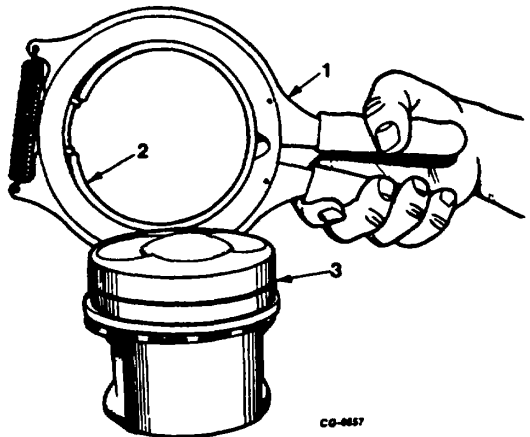

Figure 73. Installing Piston Ring
19. Assemble rings on pistons to which they were fitted by using piston ring expander tool. This type of tool is recommended to avoid over-expanding and to avoid distortion (Figure 73). General practice when installing piston rings is to stagger the ring gaps. For further information refer to instructions furnished with service ring sets.